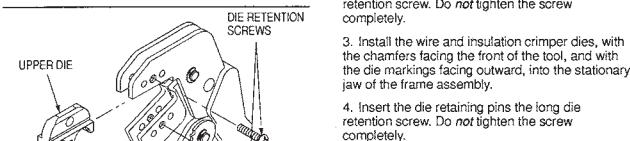

Figure 2
## 3.1. Shouldered Dies (Figure 2)
**NOTE** Die assembles with center contact crimp sections should be installed with the center contact crimp section toward the front of the tool jaws as shown in Figure 2. If indicated otherwise in other instructions, follow the specific die requirements demonstrated in that document.